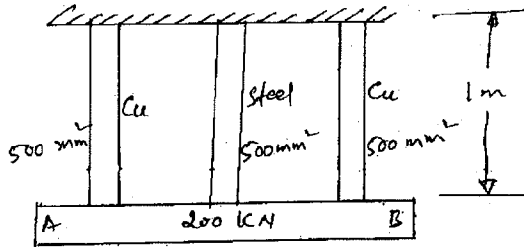

Fig.Q.2(c)
- c. A horizontal rigid bar AB weighing 200kN is hung by three vertical rods, each of 1m length and 500mm^2 in cross section as shown in figure Fig.Q.2(c). The central rod is of steel and the outer rods are copper. If the temperature rise is 40°C , estimate the load carried by each rod and by how much the load will descend.